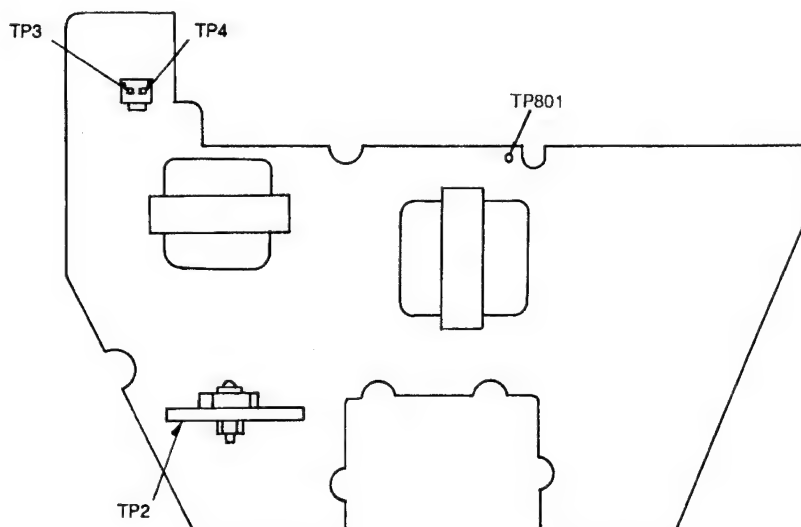

Fig. 54
- 2) Use a multimeter (for DC voltage measurement) to measure the voltage between TP801 and TP2 (Refer to Fig. 54).